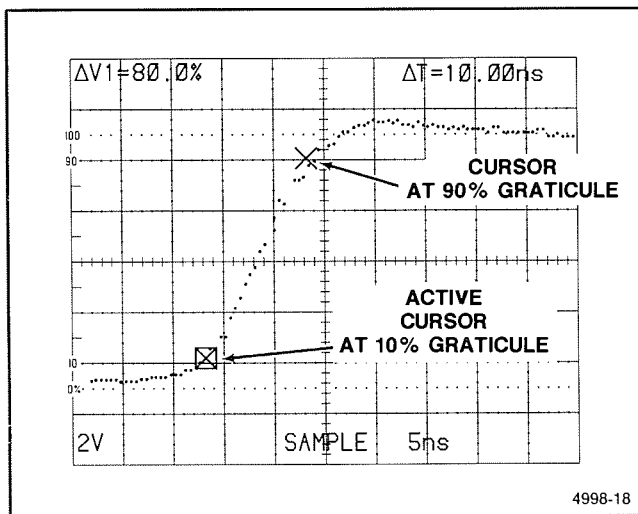

Figure 6-5. Rise time, cursor method.
10. Push the SELECT C1/C2 button to select the other cursor, and use the CURSORS control to move the active cursor up the waveform's leading edge until the ΔV readout is 80% (see Figure 6-5).